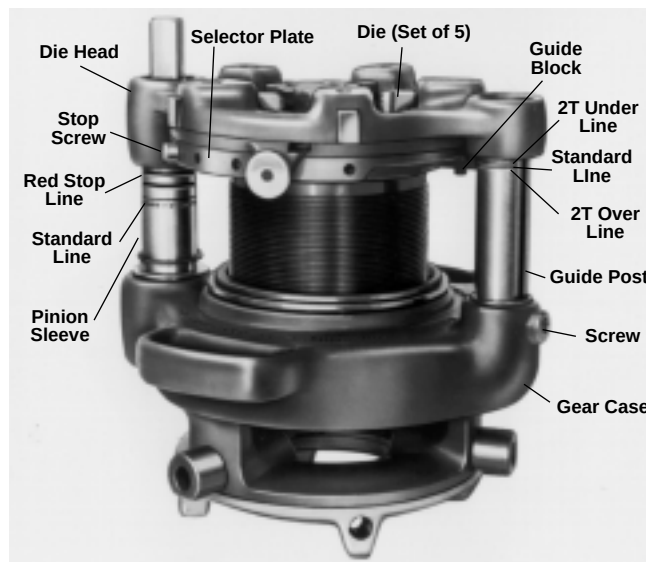

Figure 26 – No. 161 Geared Threader Showing Pinion Sleeve and Guide Post Reference Lines
(*Figure 26*)
1. Remove stop screw (*Figure 26*) from selector plate.